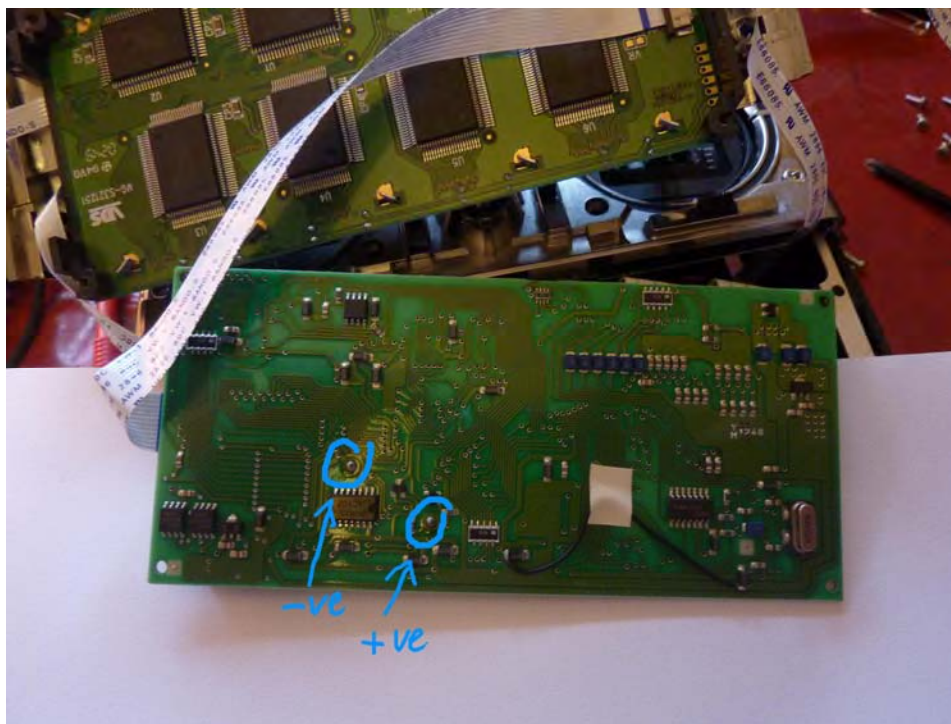

Figure 27 Top PCB 'Flipped' and Battery Terminals Exposed
7. Flip the top PCB onto its back (see Figure 27).
8. Desolder and remove the old battery terminals using your iron and pump, being careful to note which terminal is +ve and which is -ve (see Figure 27)